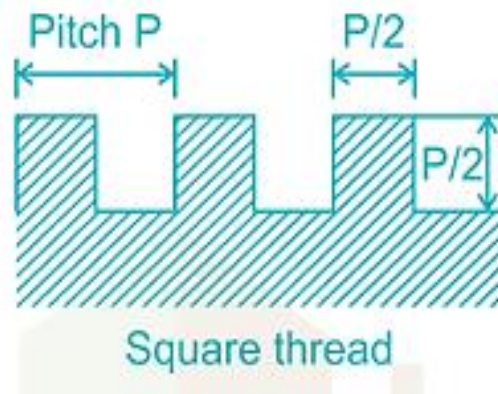

Fig. 2.31: Square Threads
- Square threads have a square shaped profile, where the sides of the thread are perpendicular to the axis of the shaft, providing a greater contact area (Fig. 2.31).